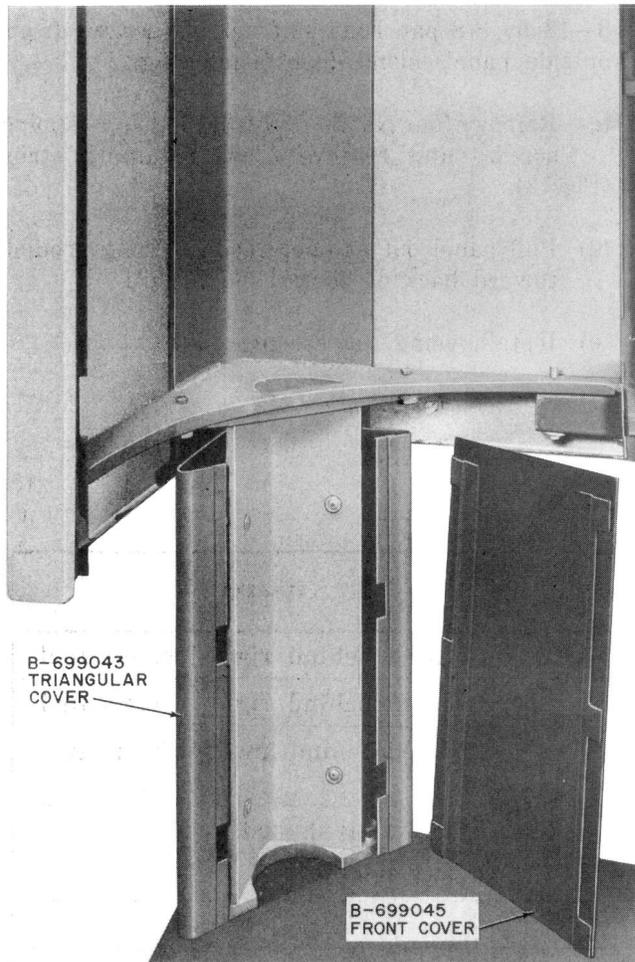

Fig. 14—Installation of Leg Covers
**3.12** Install the leg covers as follows (Fig. 14):